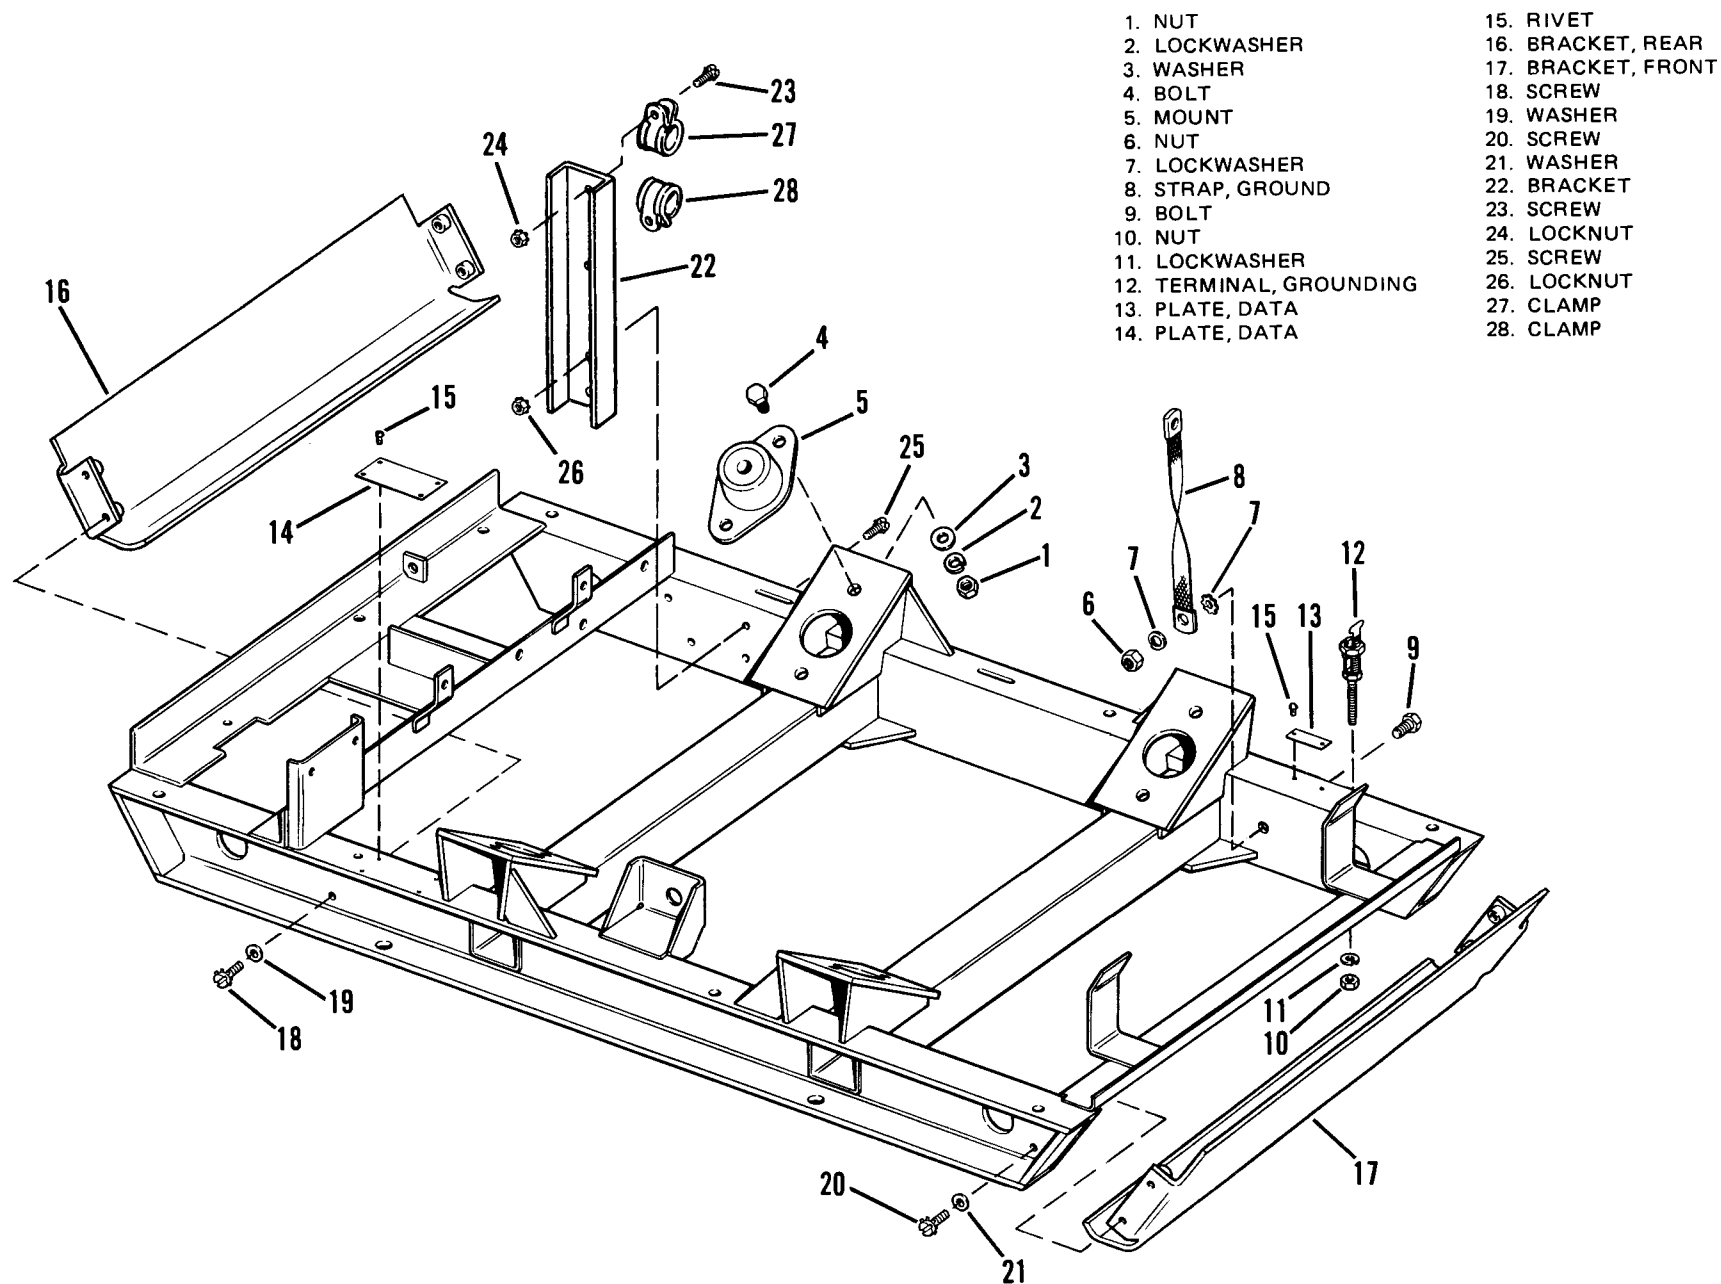

Figure 3-2. Skid Base.
- (1) Remove nuts (1, Figure 3-2), lockwashers (2), washers (3), bolts (4) and mounts (5).
- (2) Remove nut (6), lockwasher (7), ground strap (8), and bolt (9).